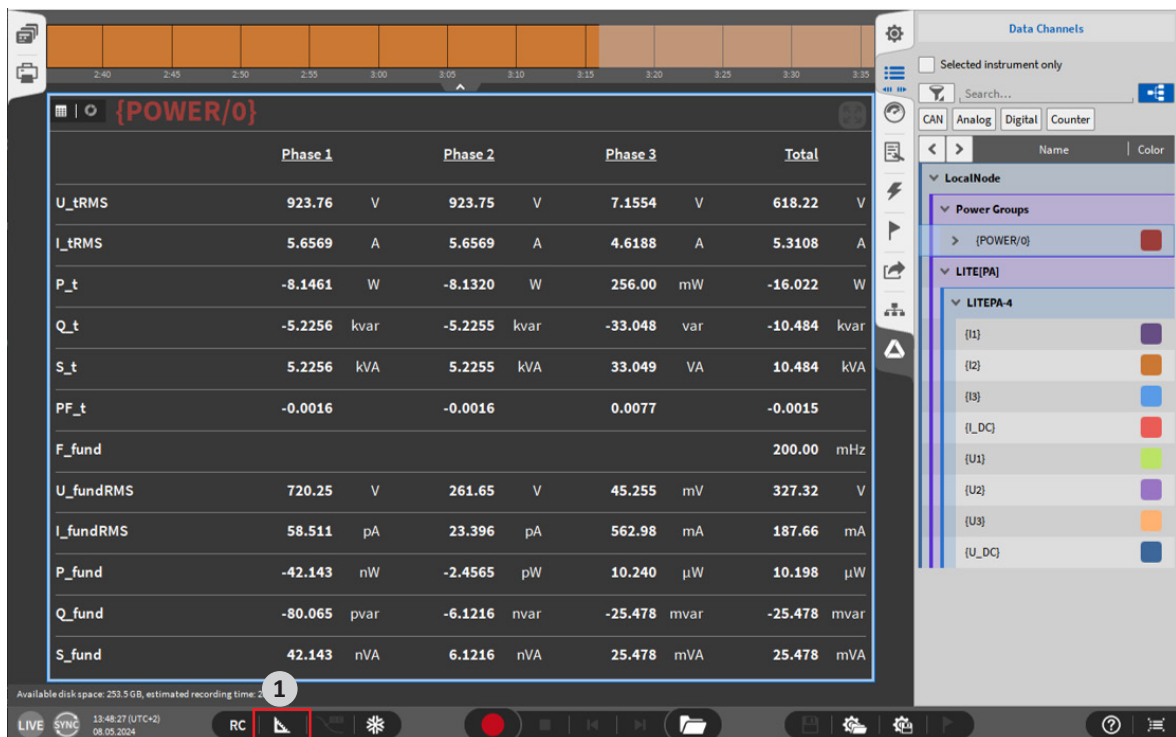

Fig. 24: Place the Power instrument without a template (2)
2. Resize the instrument and disable the design mode at the bottom left, see ① in Fig. 24.